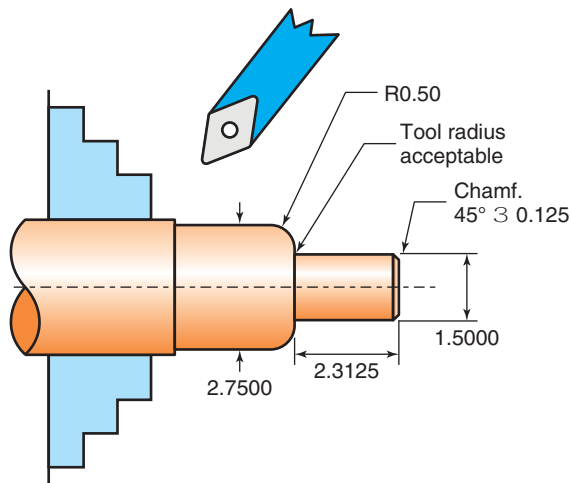

Figure 20-39 Problems 10 through 12.
10. Using a compensated, part path program and a 608 diamond insert cutting tool with a 0.060-in. nose radius, shank setup at vector position 4 as shown in Fig. 20-39. After coordinating the setup and turning one part, the following dimensions are measured. (LOs 20-3 and 20-4)
11. Using Fig. 20-39, the part is machined and the 1.5000-in. dimension is measured at 1.507 and the 2.7500 one comes out as 2.7568 in. The radius, chamfer, and the 2.3125-in. dimensions are all measured to be right on target. What correction(s) is (are) called for? (LOs 20-3 and 20-4)
12. In Fig. 20-39, the first run of the program shows the following turned dimensions. What's the problem and how can it be corrected? The tolerance for diameters and length is ± 0.003 in. (LOs 20-3 and 20-4)